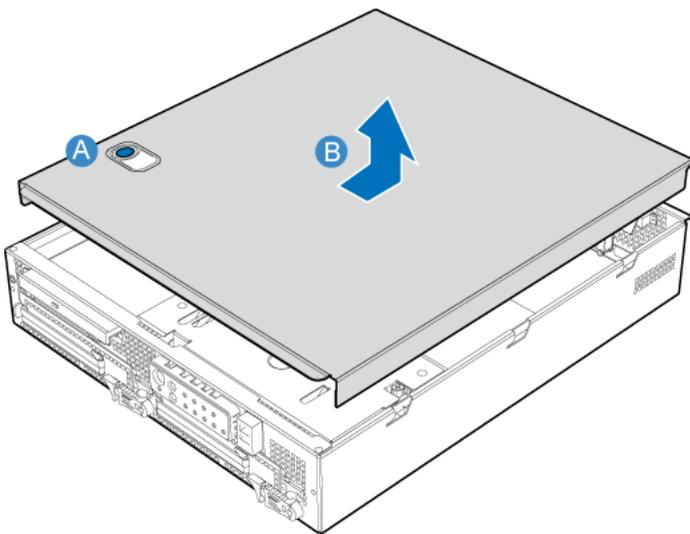

Figure 12: Server cover
1. Place the cover over the chassis so that the side edges of the cover sit just inside the chassis sidewalls. The front of the cover is about an eighth of an inch from the sheet metal at the front of the chassis. Refer to Figure 12: Server cover on page 71.